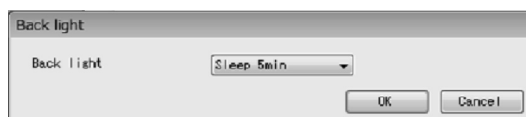

Fig.88
- ① Click the "Setup (S)" menu, and then select and click "Back light" from the "LCD" drop-down list.
- ② The following window will be displayed (Fig. 88). Turn the back light on or off here, and set the length of time on.